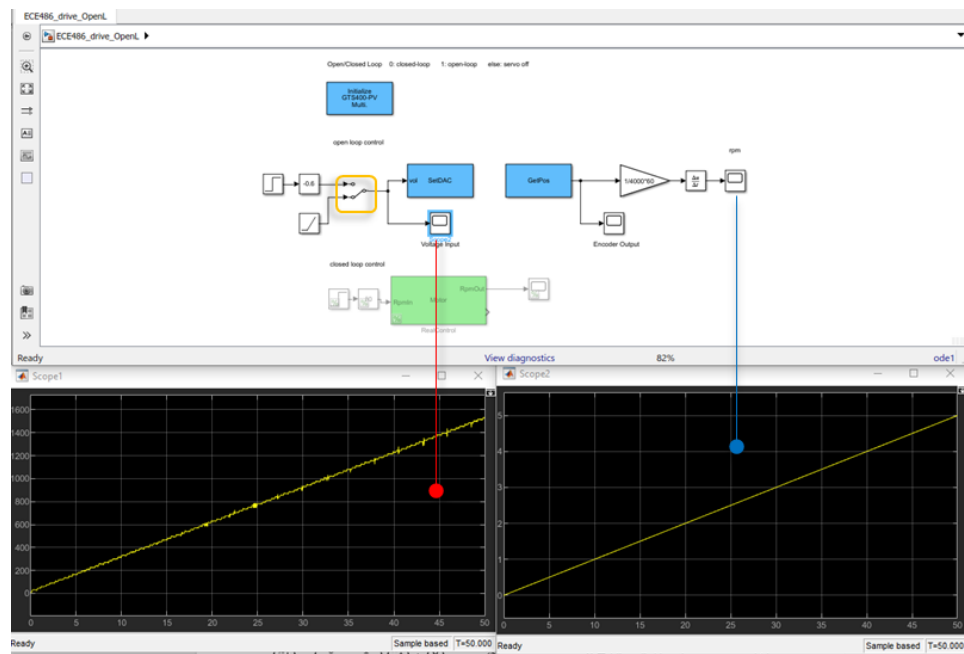

Figure 4: Input voltage and the output rpm
- Run ECE486\_drive\_OpenL and toggle the manual switch to send a ramp input (**Figure 4**)